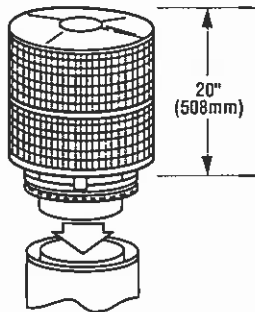

Figure 33
1. Hold CTDTM over top of last chimney section (Figure 33).